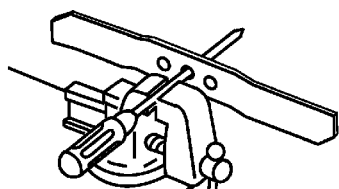

Figure 27
1. Check the balance of the blade by placing the center hole of the blade over a nail or a screwdriver shank clamped horizontally in a vise (Fig. 27).